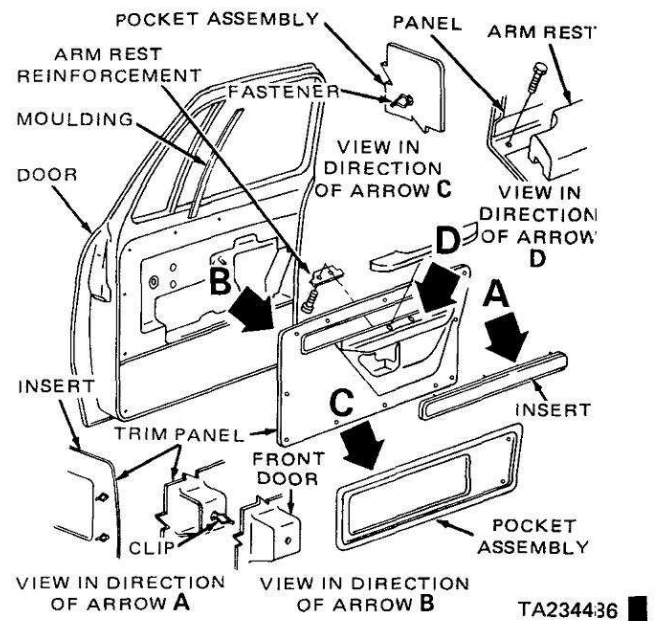

Figure 2-110. Upper-Lower Trim and Arm Rest.
a. The upper trim plastic panel is mounted with a reinforcement in the arm rest area. It is then fastened to the door with clips and screws (figure 2-110).